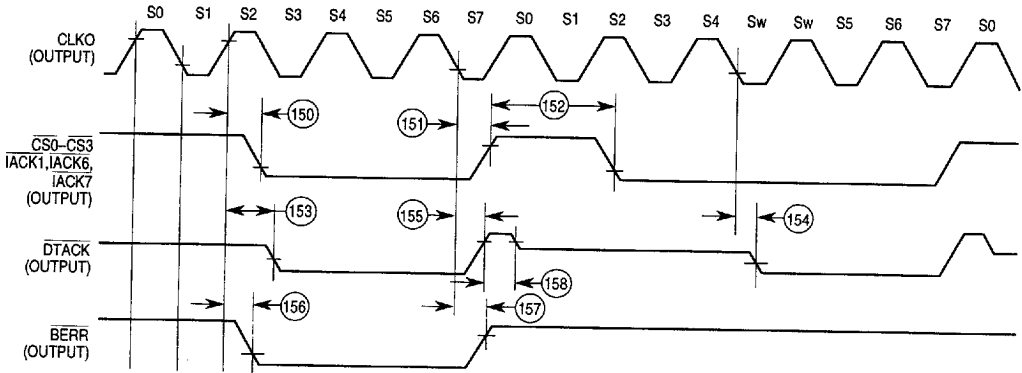

Figure 6-14. Internal Master Chip-Select Timing Diagram
6.13 AC ELECTRICAL SPECIFICATIONS—CHIP-SELECT TIMING INTERNAL MASTER (see Figure 6-14)